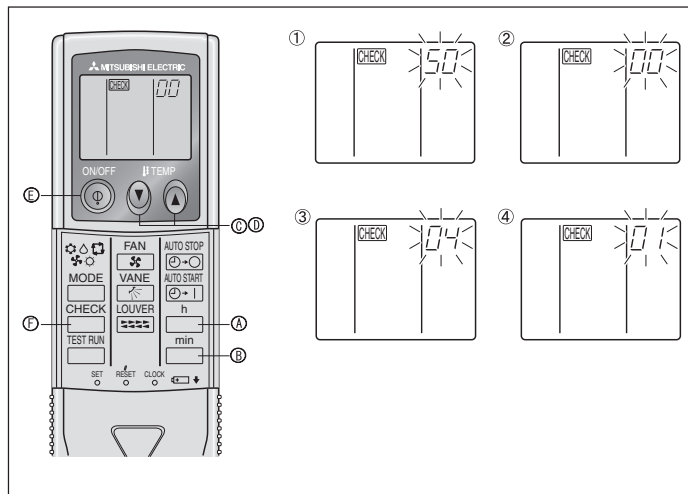

Fig. 6-10
- ⑧ Press the MODE button \odot and mode and the setting number (I) and (II) will change to be on constantly and the contents of the setting can be confirmed.
- ⑨ Press the FILTER \odot and TEST RUN \odot buttons simultaneously for at least two seconds. The function selection screen will disappear momentarily and the air conditioner OFF display will appear.
2) For wireless remote controller (Fig. 6-10)